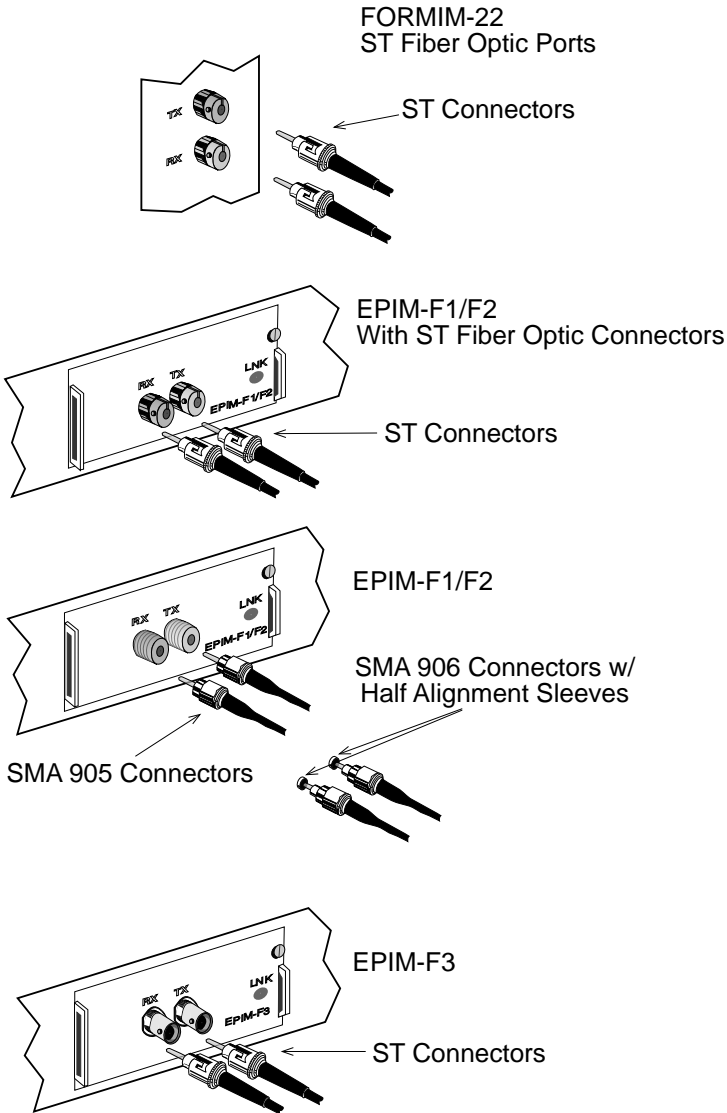

Figure 3-11. Connecting a Fiber Optic Link Segment to a FORMIM, EPIM-F1, EPIM-F2, or EPIM-F3
2. Attach the fiber labeled 1 (Fig. 3-11) to the applicable receive port, labeled RX, on the module.